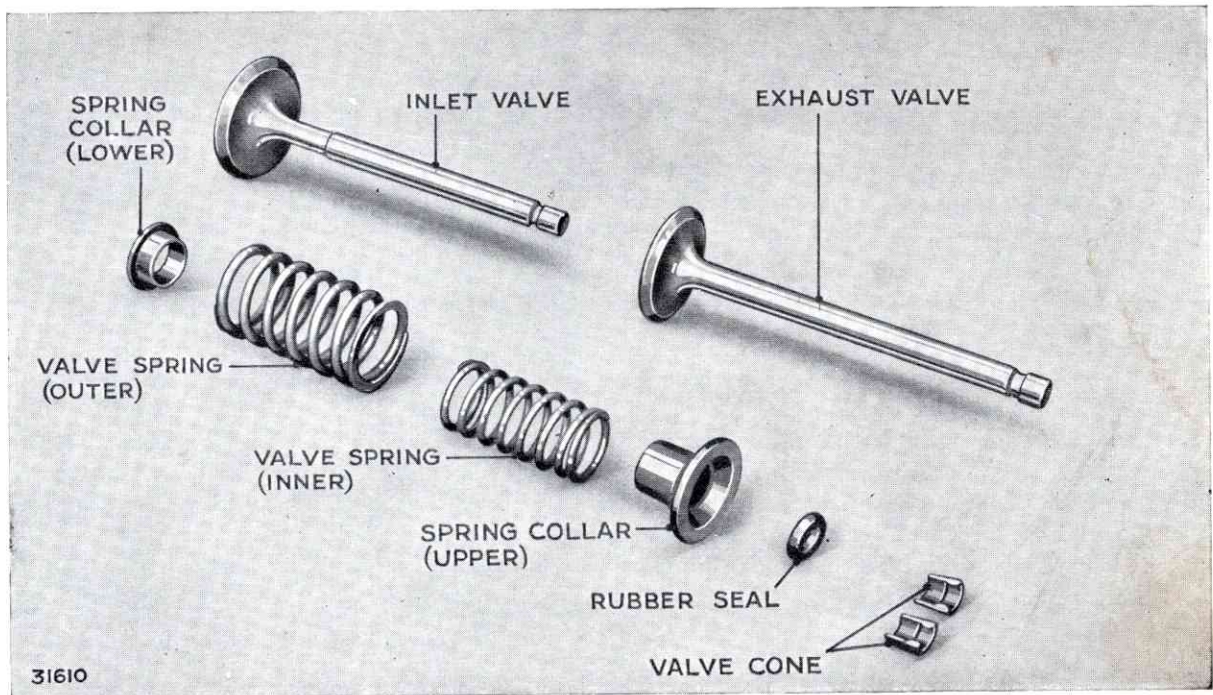

FIG. 20. VALVES AND SPRINGS
2. Extract the split cone, Fig. 20 and 21, and remove the valve collar together with the rubber sealing ring and valve springs, Fig. 20.